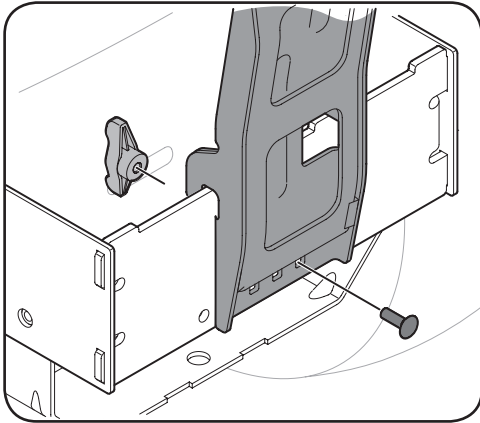

Figure 4-7
- Secure the bag support assembly to the mounting assembly using a carriage bolt (710-0276) and wing knob (720-04122) from hardware pack 689-00600. See Figure 4-7.